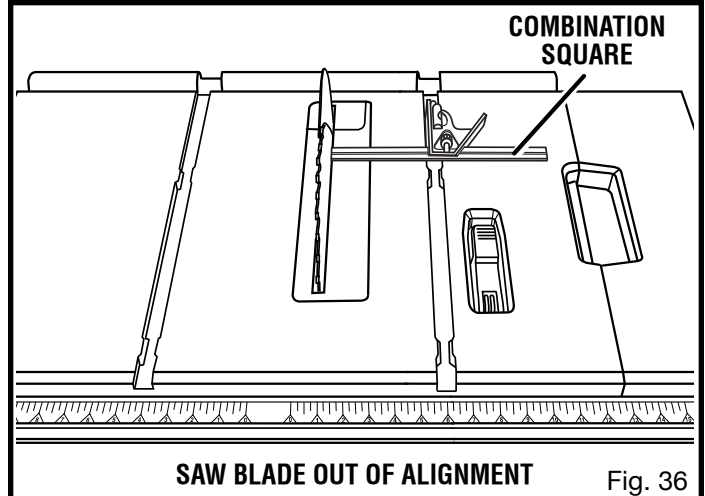

Fig. 36
- Mark beside one of the blade teeth at the front of the blade. Place a combination square even with the front of the saw table and the side of the saw blade as shown in figure 36.